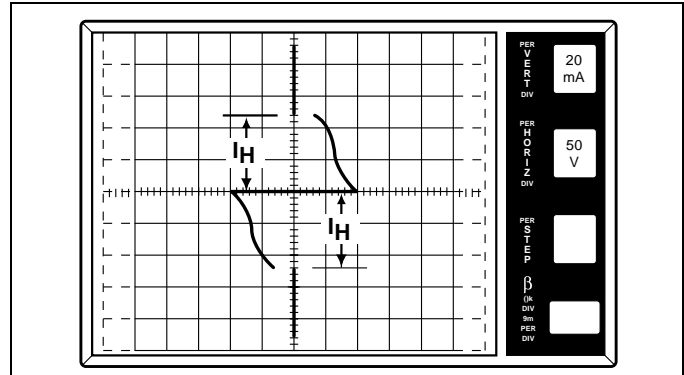

Figure 19.22  $I_H$  is equal to 48mA in both forward and reverse directions
9. Increase *Variable Collector Supply Voltage* until device breakover and turns on. (See Figure 19.22.)